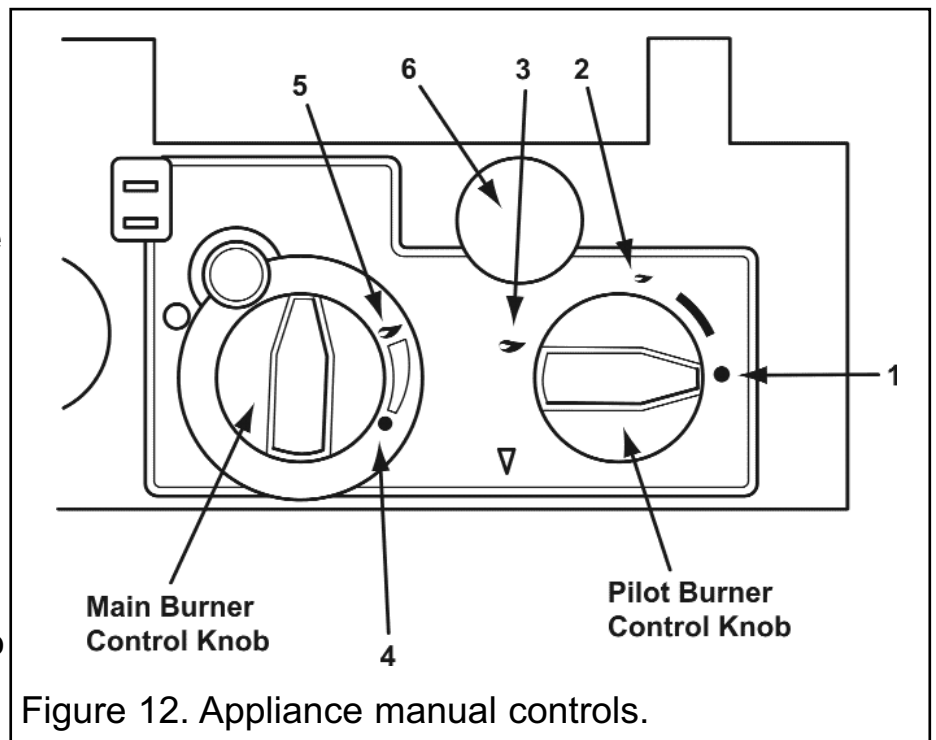

Figure 12. Appliance manual controls.
1. Ensure that the pilot burner control knob is in the OFF position (Number 1 in figure 12).
2. Depress the pilot burner control knob and turn anti-clockwise to the ignition position (Number 2 in figure 12) to activate the piezo ignition system. A 'click' will be heard and the pilot should light. Observe if it is alight by looking through the slots to the left hand end of the front ceramic fuel effect. If the pilot does not light immediately, repeat the above procedure, keeping the knob depressed for several seconds in order to purge any air from the system.
1. Once the pilot light is established, light the main burner by turning the pilot burner control knob anti-clockwise to the "main burner on" position (Number 3 in figure 12), and by then turning the main burner control knob to the high position (Number 5 in figure 12).
2. Check the full range of heat settings by turning the main burner control knob slowly between the high position and the low position (Number 4 in figure 12).
Turn the main burner control knob fully clockwise. Alternatively turn the pilot burner control knob clockwise to the ignition position (Number 2 in figure 12).
Rotate the pilot/burner control knob clockwise to position 1, as shown in figure 12.
3. Turn the fire off by rotating the pilot burner control knob to the OFF position (Number 1 in figure 12).